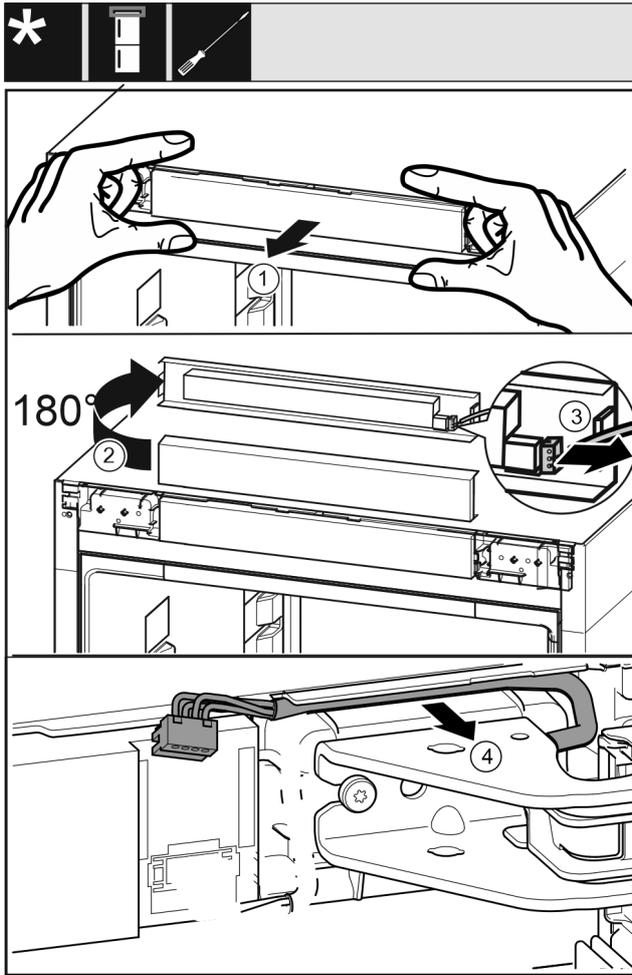

Fig. 23
- ▶ Carefully release the control panel trim Fig. 23 (1) forwards.
- ▶ Turn the control panel trim Fig. 23 (2) upwards by 180°.
- ▶ Push the locking tab Fig. 23 (3) backwards and remove the plug carefully.
- ▶ Release the cable over the swap bearing block Fig. 23 (4) from the guide carefully.